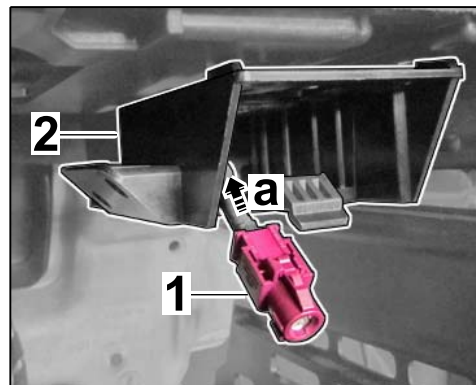

Figure 16
- 4.3.2 Pull back connecting line ⇒ *Figure 16-a-* until the violet connector ⇒ *Figure 16-1-* is at the USB/iPod control unit holder ⇒ *Figure 16-2-*.